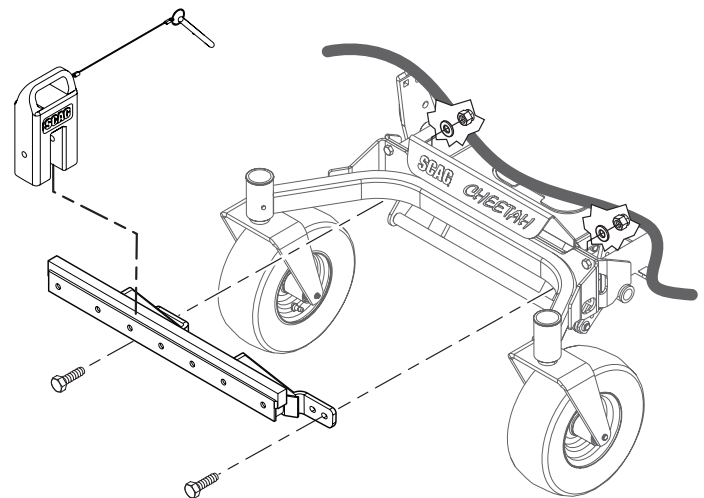

Figure 2-9. Weight Support Bar Install
19. Using the weight support bar as a guide, identify the two corresponding mounting holes, and the existing hardware that will need to be removed in order to secure the weight support bar to the front of the machine as shown. See Figure 2-9.
20. Install one 7/16-14 x 1-3/4" hex head bolt into each of the two mounting holes in the weight support bar, and through the matching holes in the caster support weldment. Secure this assembly to the front of the machine using the 7/16- .5" x 1-1/4" x .083" flatwashers, and the 7/16-14 elastic stop nuts. Torque hardware to 59 ft. lbs. See Figure 2-9.